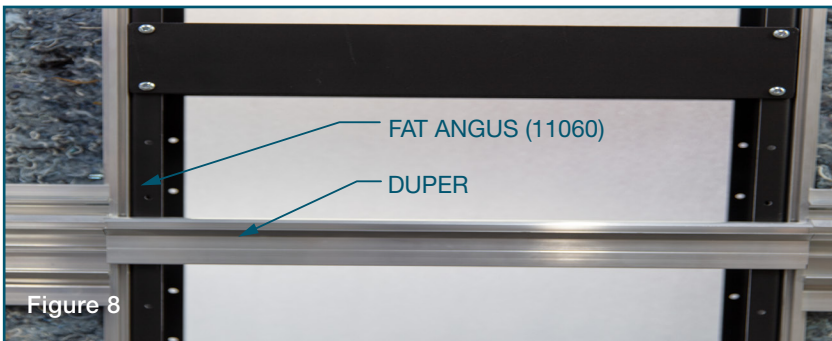

Figure 8
- D.** Install the **duper** to either the back of the panels or the **Fat Angus (11060)** on both sides of the chase (Figure 8).